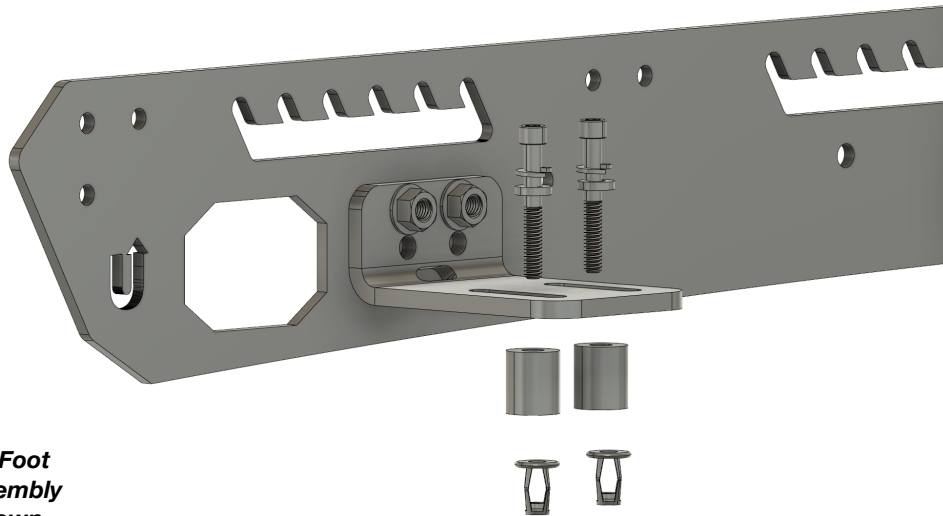

Figure 11
- **Start with the REAR feet on both sides.** (45mm Bolts) **Figure 11**